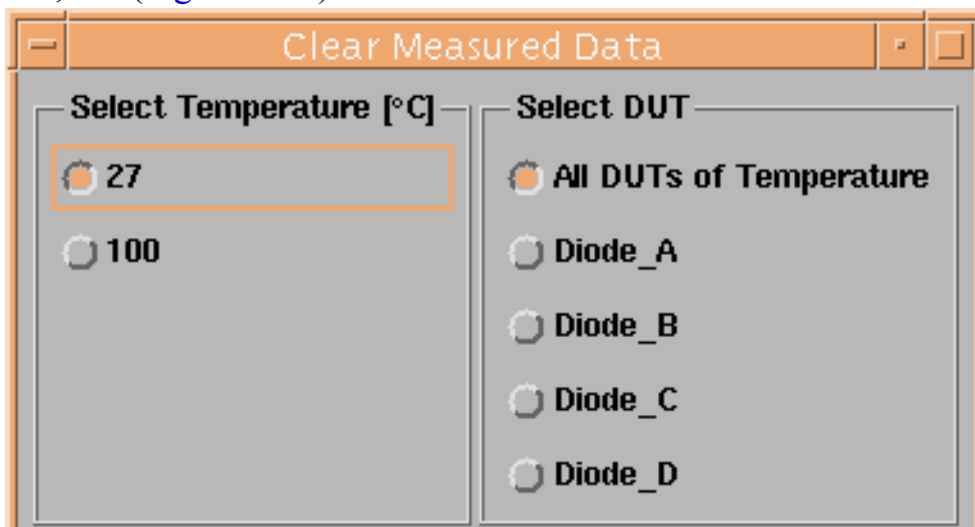

Figure 1-40. Clear measured data
- If you would like to clear data of some or all measured DUTs, use the **Clear** button. Select whether you would like to clear measured data of some or all DUT(s) at specified temperatures, see (Figure 1-40) and click **Clear Data** to delete measured data files.